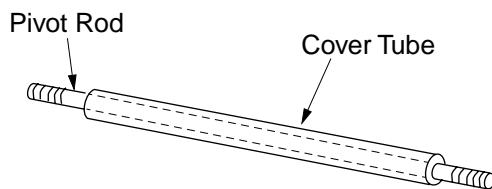

Figure 5
1. Slide the pivot rod into the cover tube as shown in Figure 5. The pivot rod and cover tube may already be assembled.